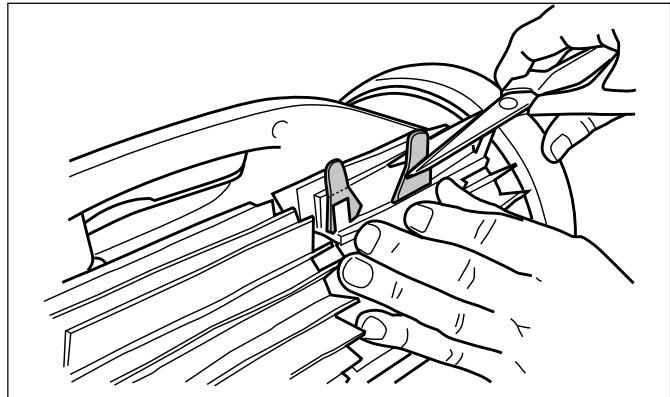

Figure 34. Cut Tabs
5. □ Use a pair of scissors to cut the tabs $\frac{3}{4}$ inch from the heel so that they are no higher than the spikes (Figure 34).